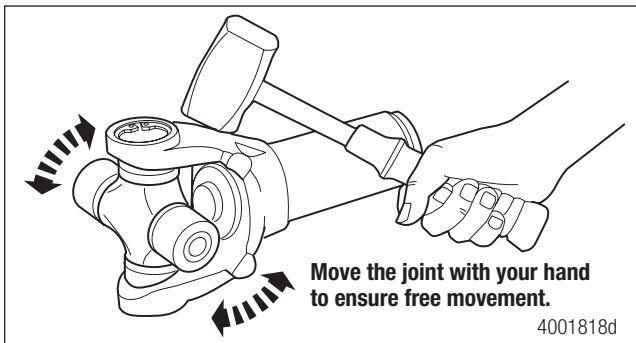

Figure 5.23
8. Strike the yoke ear with a brass or copper hammer to ensure that the universal joint moves freely. Figure 5.23.